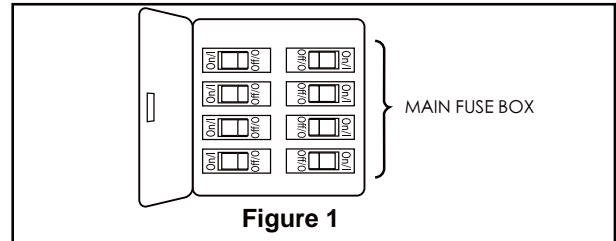

Figure 1
- 1. Remove the hanger ball portion from the downrod/hanger ball assembly by loosening the set screw in the hanger ball until the ball falls freely down the downrod. Remove the pin from the downrod, then remove the hanger ball. Retain the pin and hanger ball for reinstallation in Step 6. (Figure 1)
To avoid possible electrical shock, be sure electricity is turned off at the main fuse box before hanging. (Figure 1)
1. To set the code on receiver unit, slide dip switches to the same positions as set on the remote. (Figure 1)